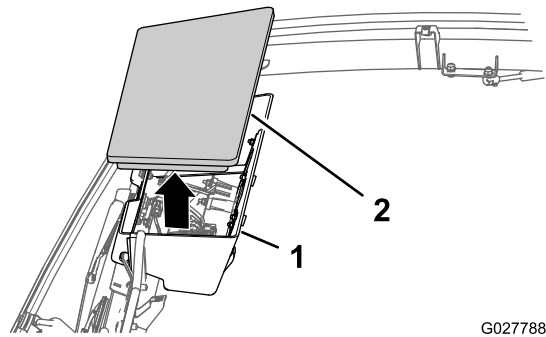

Figure 14
3. Remove the plug from the overhead console (Figure 14).